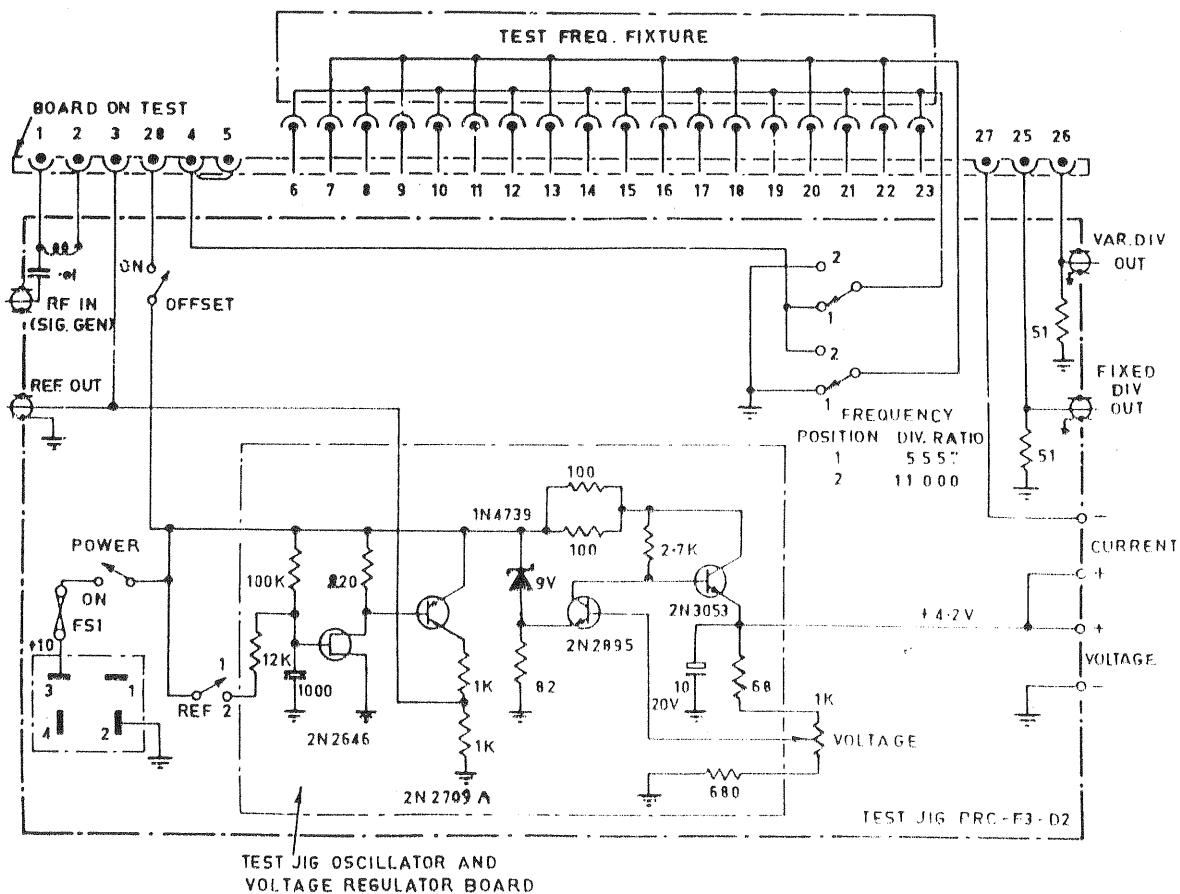

FIG 3 - TEST JIG PRC-F3-D2 (Frequency Divider Board)
- b. **Fig 3.** Gives chassis inter-wiring details and synthesizer PCB positions.
- e. Test jig PRC-F3-D2 with attachment (See Fig 3).
- (1) Connect Channel 1 to Var Div output of the test jig.
- (2) Connect Channel 2 to Fixed Div output of the jig.
- (3) Set Channel 1 sensitivity to 0.2 volts.
- (4) Set Channel 2 sensitivity to 0.1 volts.
- (5) Set both Channels to AC Coupling and mode to ALT.
- (6) Set the Time Base to 0.5 ms.
- (7) Set to Ext Triggering.
- (8) Connect the Ext Trig input to the Var Div output of the jig via coaxial cable and BNC T connector.
- h. For boards without attached switch assemblies, connect terminals 6 to 23 to the jigs attachment (See Fig 3).